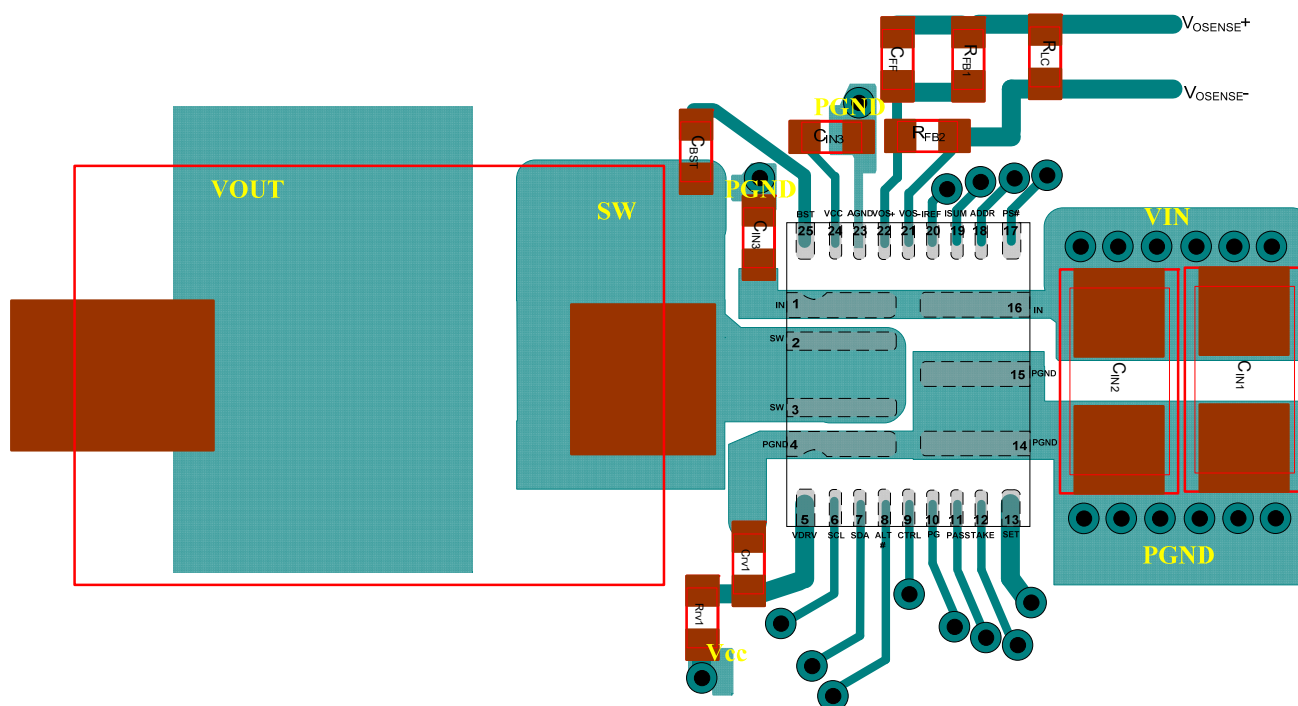

Figure 8: Example of PCB Layout (Placement and Top Layer PCB)
Efficient PCB layout is critical for stable operation. For best performance, refer to Figure 8 and follow the guidelines below:
- Efficient PCB layout is critical for stable operation. For best performance, refer to Figure 8 and follow the guidelines below: